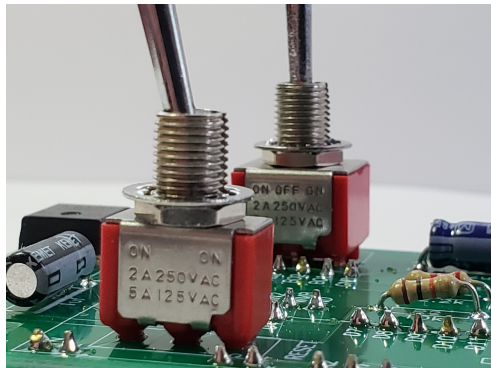

fig 2
- 1) Install a nut onto each toggle switch. Rotate the nut all the way to the bottom of the switch (fig 2).